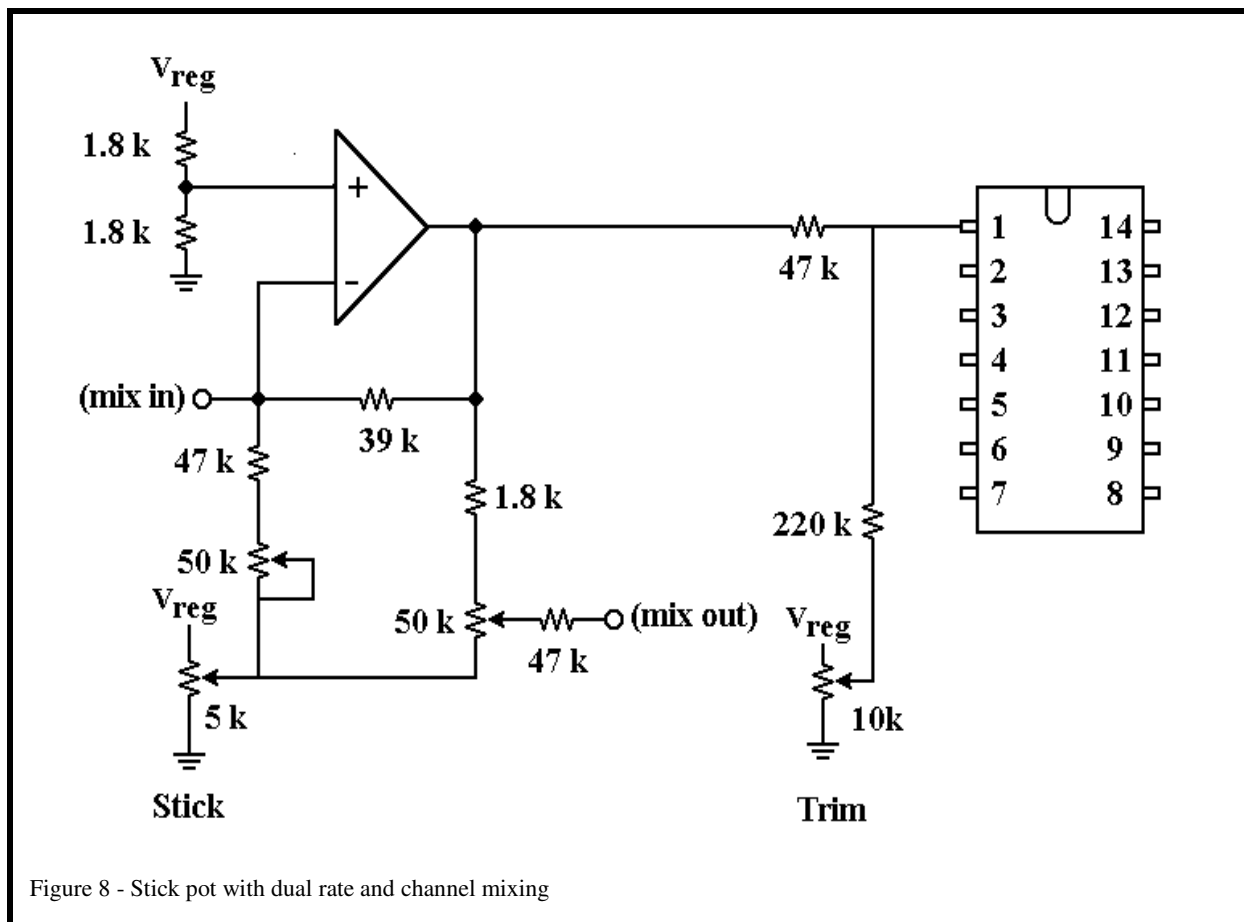

Figure 8 - Stick pot with dual rate and channel mixing
**Channel mixing** - Channel mixing, although simple, requires an inverting circuit. The most common method would be to use an op-amp operating as a single supply inverting amplifier. Referring to Figure 8 we see a
The amount of mix, and the direction of mix, is then determined by moving the mix pot off center in one direction or the other. This mix output would then be applied to mix-in on another channel (like aileron to rudder if you wanted your rudder to move when you moved your ailerons). Mix in is shown in Figure 8 on the Stick pot input leg to the op-amp.